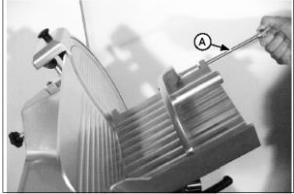

Figure 8
- 4.Unscrew and remove the product holder shaft (Fig.8-A) and the food pusher